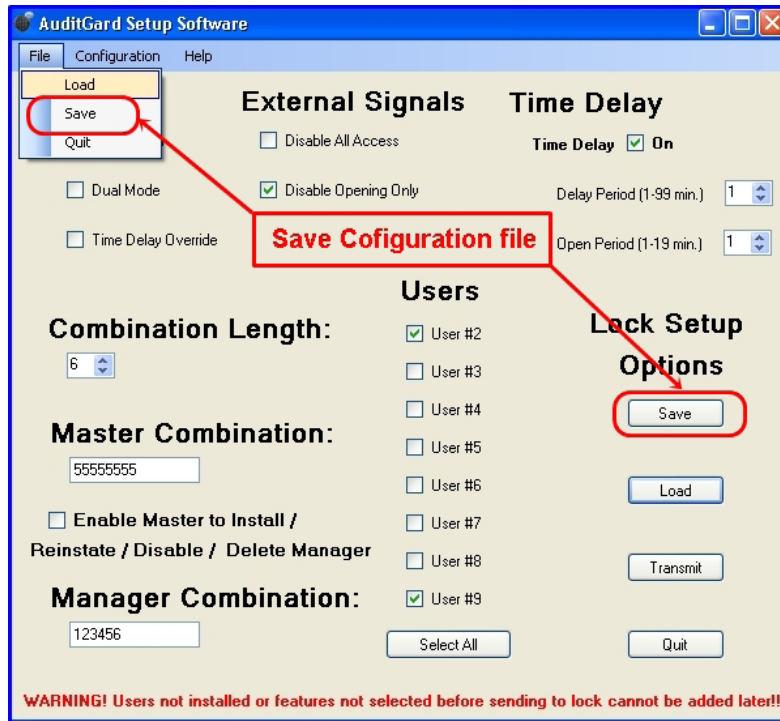

Figure 18
1. Click the **Save** button or on the **Files** tab at the top of the program and select Save (Figure 18).